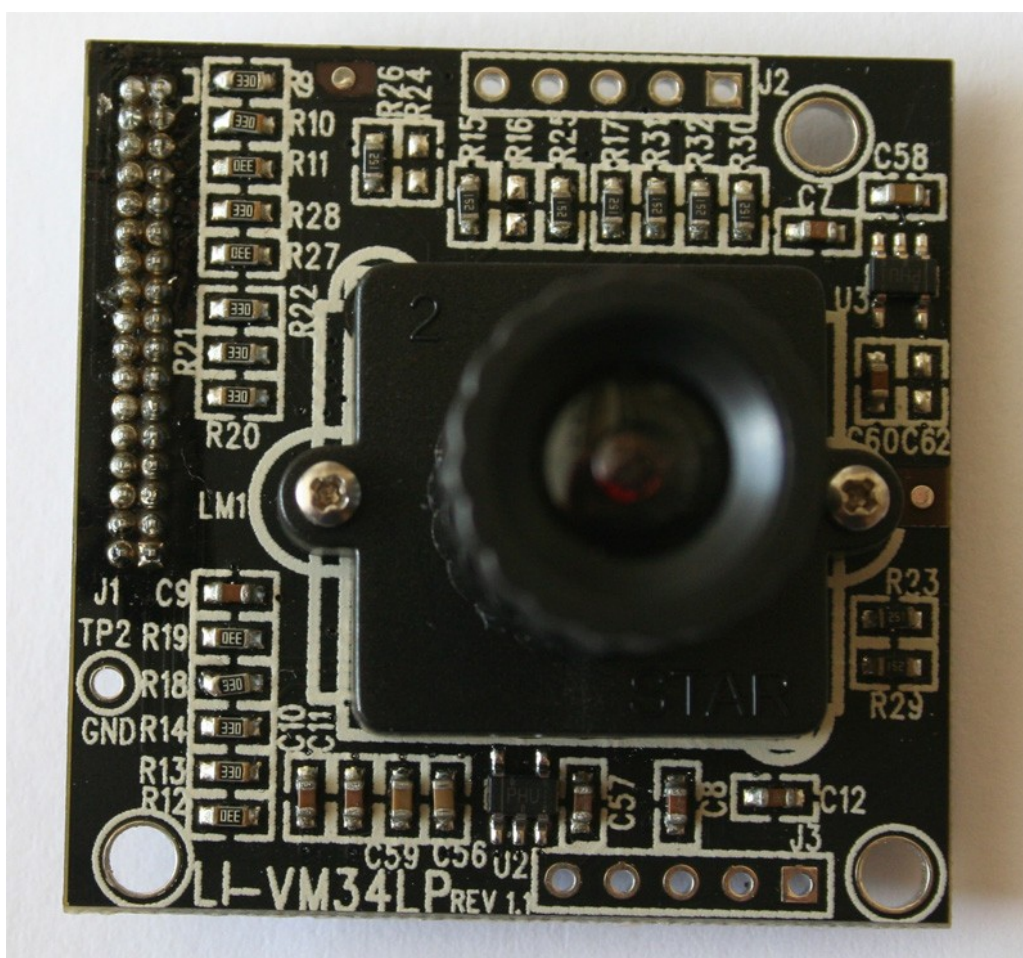

Figure 13. WVGA Camera Board
1.2.5.7 WVGA Global Shutter Camera Board, see Figure 13